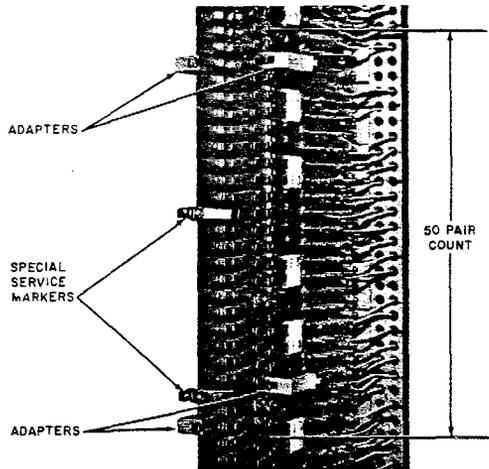

Fig. 9—Adapters Placed on 444-Type Jack
- (1) Pull the 50 plungers out to the latch position.
- (2) Place four adapters on jacks (in the 50-pair count to be tested) as near to the upper and lower extremes of the 50-pair count as special service markers permit (Fig. 9).
**Note:** The adapters (Fig. 9) used to place the F test connector should be those with the X marked on their side.